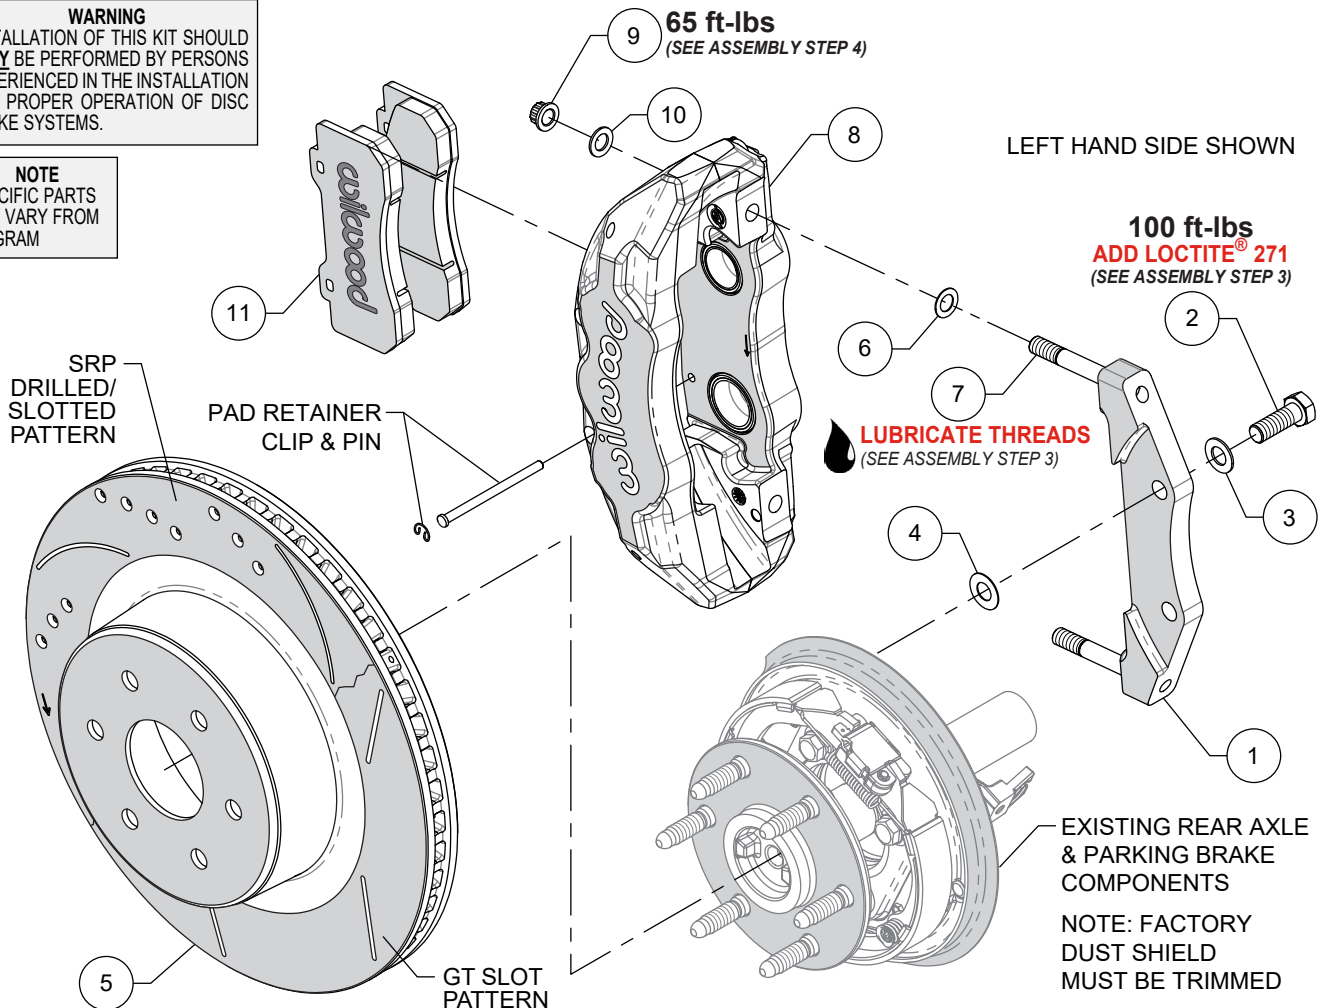

Figure 1. Typical Installation Configuration
**NOTE:** Numbers in parenthesis refer to the parts list and Figure 1 on the preceding pages.
**STEP 1** The caliper mount bracket (1) should initially be installed with clean, dry threads on the mounting bolts. Orient the bracket as shown in Figure 1 and Photo 1, and install using bolts (2) and washers (3). Initially place one .029" thick shim (4) on each bolt
between the bracket and OEM caliper mount bosses, Figure 1 and Photo 2 (arrow). Temporarily tighten the mounting bolts. **NOTE:** The bracket must fit squarely against the mount bosses. Inspect for interference from casting irregularities, machining ridges, burrs, etc. Later, after the caliper alignment has been checked, the mount bolts will be secured using red Loctite® 271.
**STEP 2** Slide the rotor (5) onto the axle flange. **NOTE:** The rotor must fit flush against the axle flange or excessive rotor run out may result. Install three lug nuts (finger tight) to keep the rotor in place while continuing with the installation, Photo 3.
**STEP 3 NOTE:** This kit contains distinct right and left hand calipers that must be mounted in a specific direction, as described below. Lubricate the caliper mounting studs (7) with lightweight oil. Initially place one .032" thick shim (6) on each stud as shown in Figure 1 and Photo 4. Mount the caliper (8) onto the bracket (1) using lock nuts (9) and washers (10), Figure 1. Ensure that
subtracting shims (4) between the bracket and the OEM caliper mount bosses. Always use the same amount of shims on each of the two mounting bolts. Once the caliper alignment is correct, remove the bracket mounting bolts (2) one at a time, apply red *Loctite*® 271 to the threads, and torque to value shown in Figure 1.
**STEP 4** Remove the two pad retaining pins from the caliper by carefully popping out the pin retaining clips and sliding out the pins. Insert the brake pads (11) into the caliper, with the friction material facing the rotor, as shown in Photo 6, and secure the brake pads in place with the pad retaining pins and clips, as shown in Figure 1. Check that the top of the brake pad is flush with the outside diameter of the rotor, Photo 7. If not, adjust by adding or subtracting shims (6) between the caliper (8) and the bracket (1). After the caliper pad height is set, torque the caliper lock nuts to value shown in Figure 1.